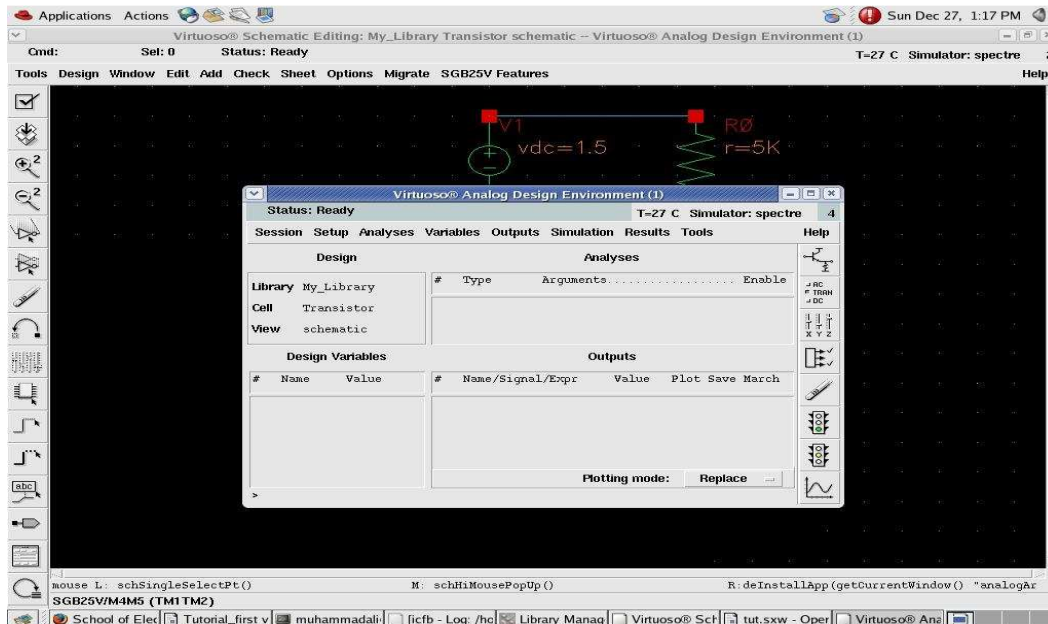

Fig.10: Analog Design Environment (ADE)
1. In the Virtuoso Schematic Editor, go to the '**Tools → Analog Design Environment**'. The ADE screen will appear as is shown in the Fig.10.